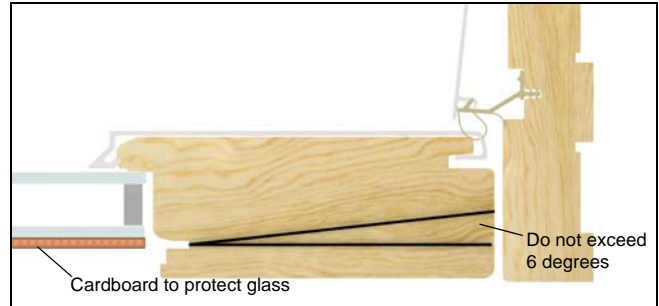

Figure 14
11. Using a drill with the 1/8 x 8" drill bit, drill new pilot holes through the stile and top rail of the panel into the stationary jamb and head jamb. DO NOT angle the drill more than 6 degrees. See figure 14.